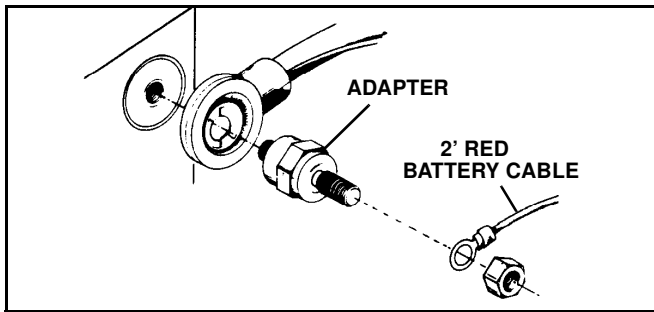

Figure 1-3
*NOTE: An adapter is recommended for vehicles with a side post battery. (See Figure 1-3). (Adapters can be purchased from your Sno-Way dealer, Part #96100773.)*